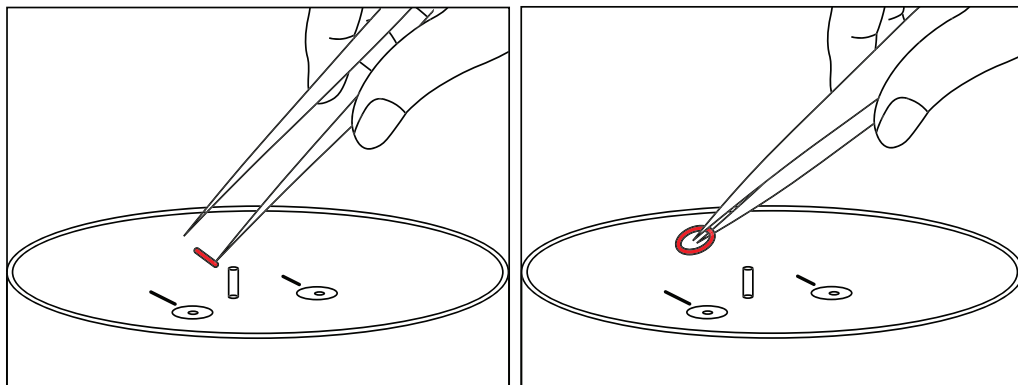

Figure 87 Changing the O-ring
1. Pierce the O-ring with tweezer to pull it out (Figure 87).